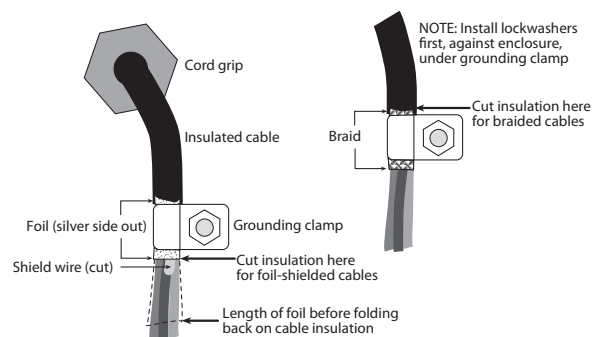

Figure 2-1. Grounding Clamp Attachment for Foil-Shielded and Braided Cables
- For cables with foil shielding, strip insulation and foil from the cable 0.5" (15 mm) past the grounding clamp (see Figure 2-1). Fold the foil shield back on the cable where the cable passes through the clamp. Ensure silver (conductive) side of foil is turned outward for contact with the grounding clamp.
- For cables with braided shielding, strip cable insulation and braided shield from a point just past the grounding clamp. Strip another 0.5" (15 mm) of insulation **only** to expose the braid where the cable passes through the clamp (see Figure 2-1).
- Route stripped cables through cord grips and clamps. Ensure shields contact grounding clamps as shown in Figure 2-1. Tighten grounding clamp nuts.